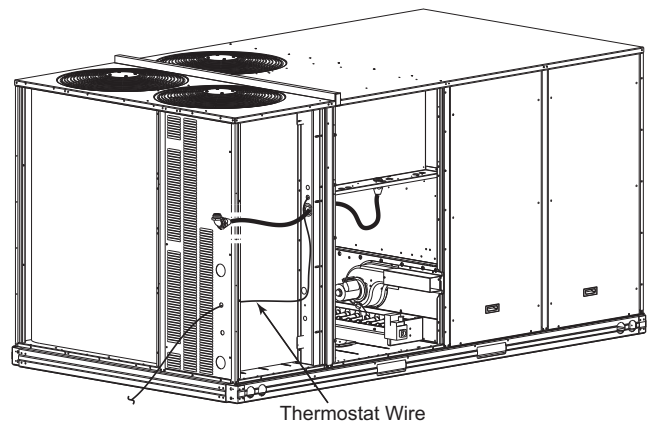

Fig. 41 — Thermostat Wire Routing
— Pass the thermostat control wires through the bushing on the unit end panel. Route the wire through the snap-in wire tie and up to the web bushing near the control box. Route the wire through the bushing and into the bottom left side of the control box after removing one of the two knockouts in the corner of the box. Using a connector at the control box to protect the wire as it passes into the control box. Pull the wires over to the terminal strip at the upper left corner of the Central Terminal Board (CTB). Use the connector at the control box and the wire tie to take up any slack in the thermostat wire to ensure that it will not be damaged by contact with the condenser coil. See Fig. 41.
1. Route the humidistat 2-conductor cable (field-supplied) through the bushing in the unit's louvered end panel. See Fig. 41.
4. Use the connector and the wire tie to reduce any slack in the humidistat cable to ensure that it will not be damaged by contact with the condenser coil. See Fig. 41.